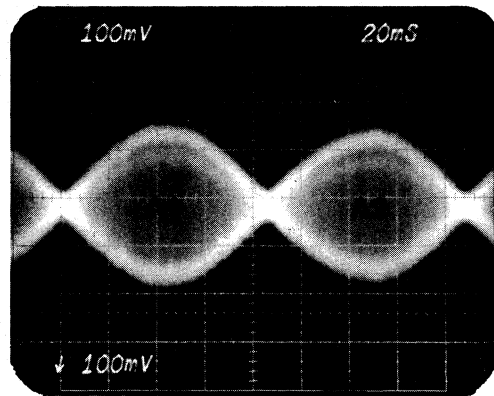

Figure 6-5 READ/WRITE HEAD PROPERLY ADJUSTED (A1=A2)
5. Carefully turn the adjusting screw at the rear of the carriage until "cats eyes" of equal amplitude are seen (See Figure 6-5).
3. Perform an incremental forward seek until the head alignment pattern, Figure 6-5, is displayed. This will position the R/W Heads over track 38.